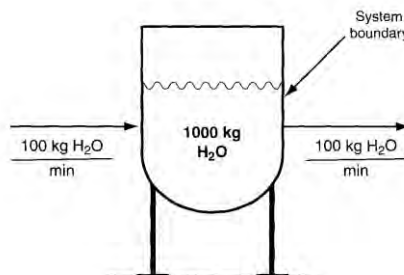
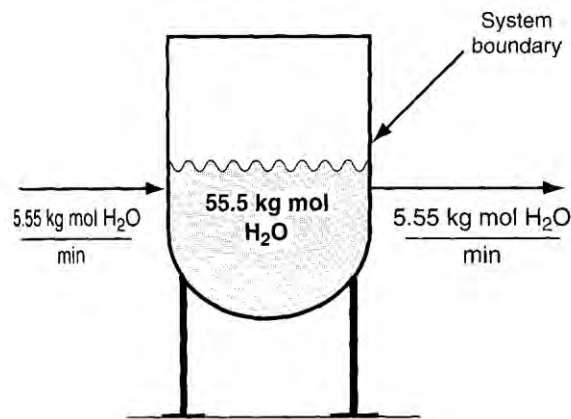

Figure 6.2 An open steady–state system.
Figure 6.7 The system in Figure 6.2 with the flow rates shown in kgmol.
Figure 6.2 is an example of an **open system** (also called a **flow system**) because material crosses the system boundary.
Because the rate of addition of water is equal to the rate of removal, the amount of water in the vessel shown in **Figure 6.2** remains constant at its original value (**1000kg**). We call such a process or system a **steady–state process** or a **steady–state system** because
1. The **conditions** inside the process (specifically the amount of water in the vessel in Figure 6.2) **remain unchanged with time**, and
Equation 6.1 can apply to moles or any quantity that is conserved. As an example, look at Figure 6.7 in which we have converted all of the mass quantities in Figure 6.2 to their equivalent values in moles.